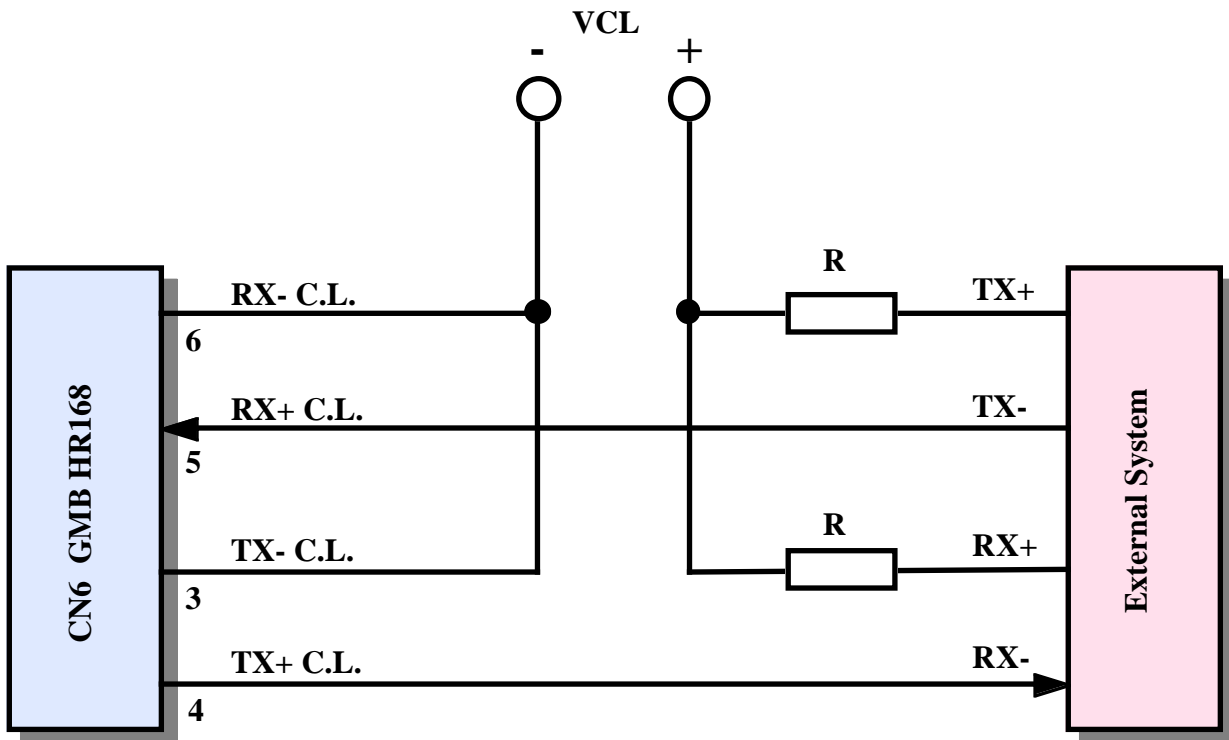

FIGURE 18: CURRENT LOOP 4 WIRES POINT TO POINT CONNECTION EXAMPLE
Possible Current Loop connections are two: 2 wires and 4 wires. These connections are shown in figures 18÷20 where it is possible to see the voltage for VCL and the resistances for current limitation (R). The supply voltage varies in compliance with the number of connected devices and voltage drop on the connection cable.